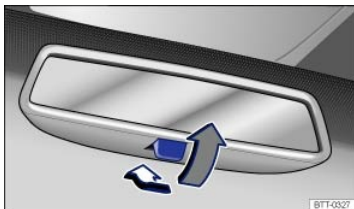

Fig. 97 Manually adjustable inside mirror.
- To adjust to non-glare visibility, move the lever so that it points down → Fig. 97.